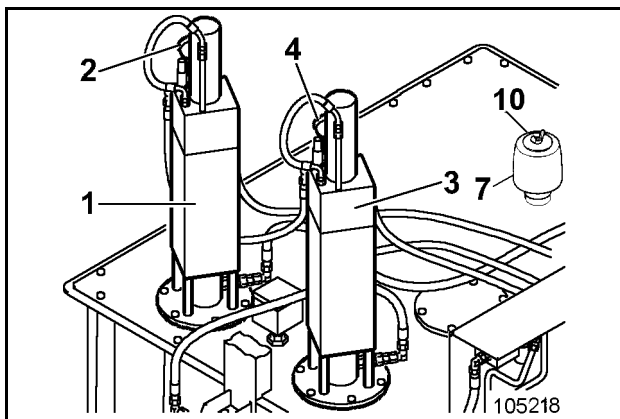

Fig. 3-153:
This oil pressure is reduced so that the pressure indicated by pressure gauge (2, Fig. 3-153:) is 35 – 40 bars / 507 – 580 psi and by pressure gauge (4) is 49 – 51 bar / 711 – 740 psi.